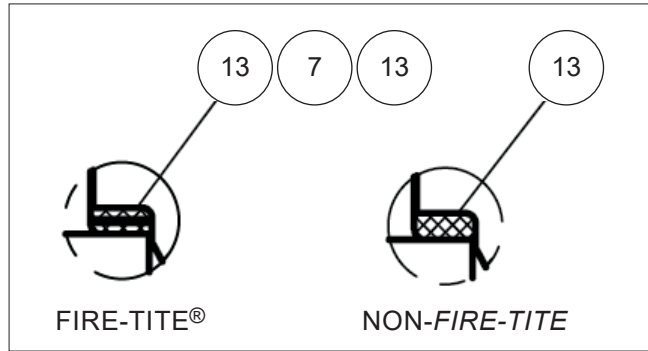

Figure 8. Thrust Bearing Orientations
7. From inside the body (1), insert the one thrust bearing (13), the secondary stem seal (7), and the second thrust bearings (13) into the stem bore (see **Figure 8**).
- Slide one thrust bearing (13), the secondary stem seal (7) and the second thrust bearing (13) over the stem (4) (see **Figure 8** for proper orientation).